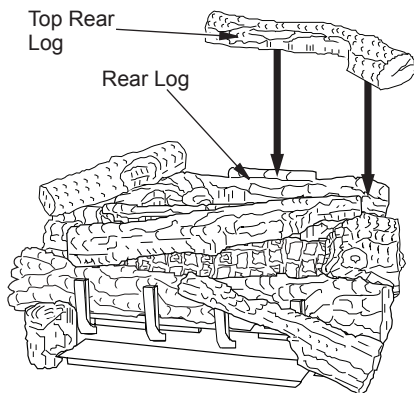

Figure 34 - Installing Top Rear Log
11. Place the top rear log onto the rear log as shown. The rear log has a projection that will fit into the recess area on the bottom of the top rear log (see Figure 34).